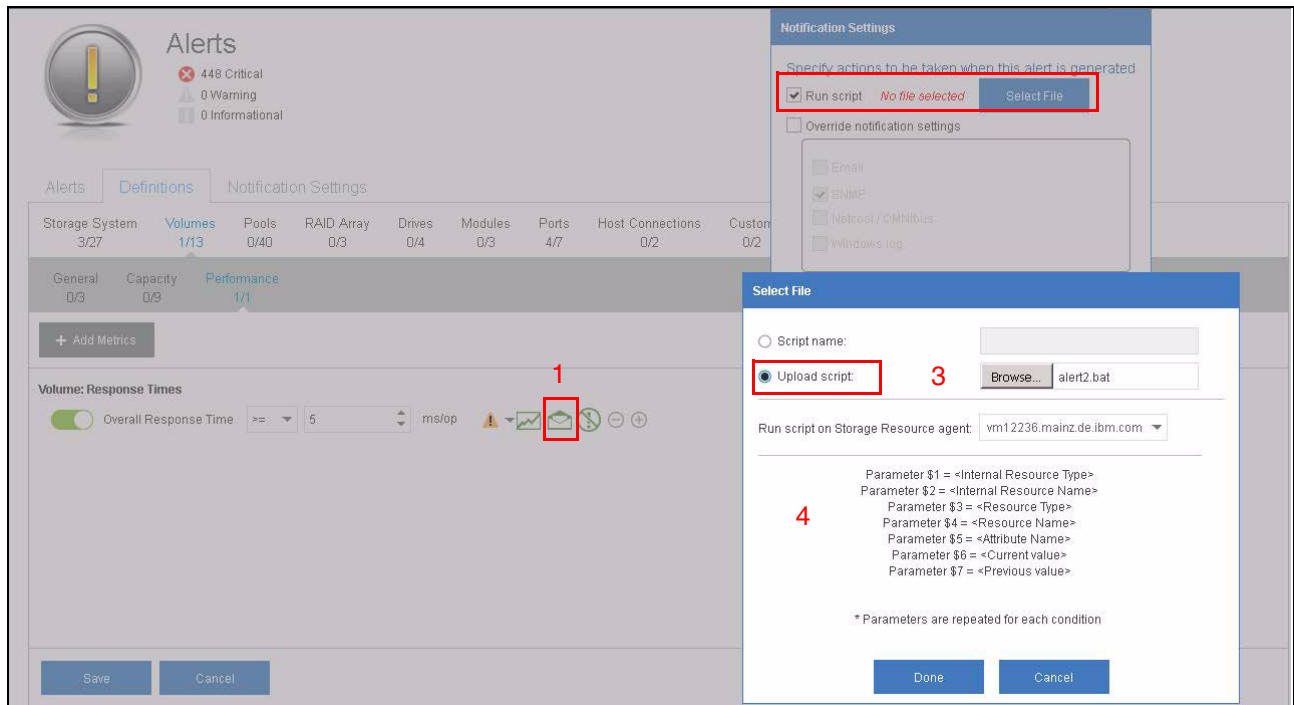

Figure 3-25 Triggered Run script functionality
After an alert was triggered, scripts can be run from any server where a storage resource agent (SRA) is deployed (including the IBM Spectrum Control server). After clicking the **Alert notification** icon (1), select **Run script**, and then **Upload script** (3). The available parameters can be passed on to a script are listed (4), as shown in Figure 3-25.